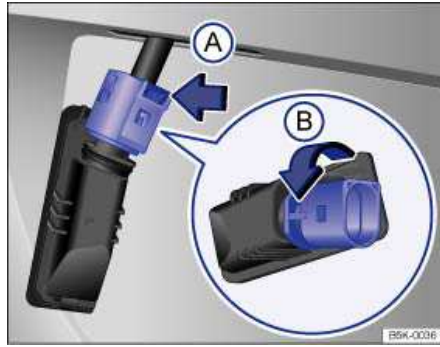

Fig. 181 License plate light: Removing the bulb holder.
4.	Press the locking mechanism on the connector in the direction of the arrow ⇒ fig. 181 (A) and pull the connector plug off.
5.	Turn the bulb socket in the direction of the arrow (B).
7.	Insert the bulb socket in the license plate light and turn it opposite the direction of the arrow (B) until it stops.